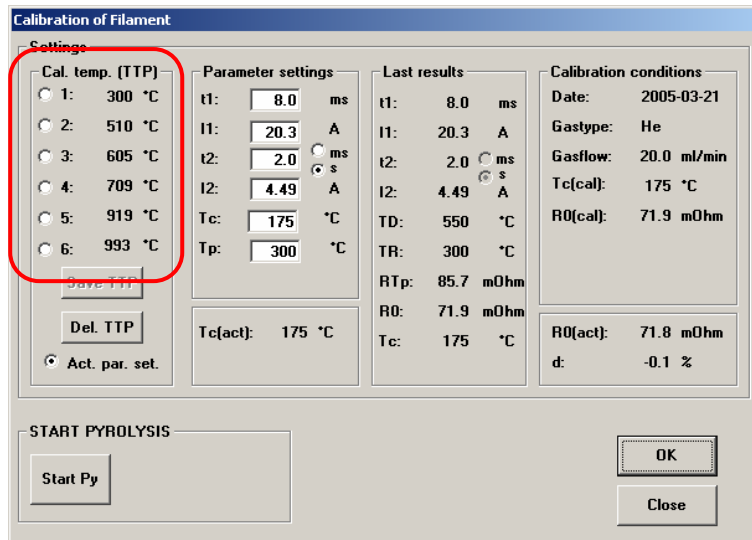

Figure I-7. 'Calibration of filament' window after calibrating at 6 different temperatures.
- When an ideal TTP is obtained click 'Save TTP'. Every new calibration temperature is displayed under 'Cal. temp. (TTP)', see Figure I-7.